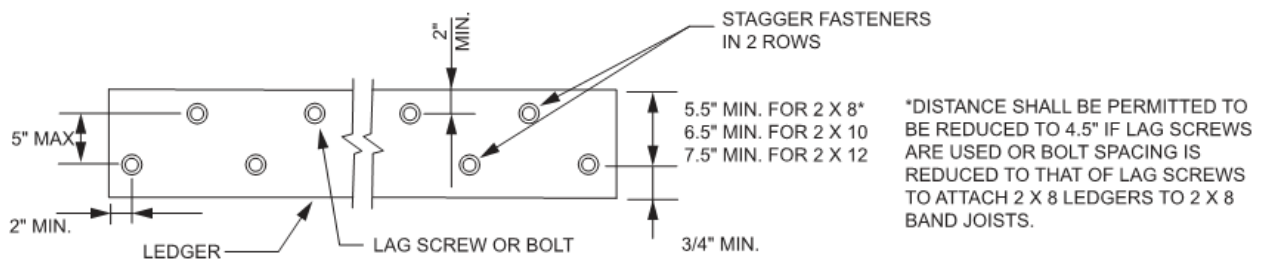

Figure 7: Placement of Lag Screws and Bolts in Ledgers
- Deck ledger connections to band joists shall be in accordance with Tables 4 and 5 as well as Figures 7 and 8.
- Fasteners used in deck ledger connections shall be hot-dipped galvanized or stainless steel and shall be in accordance with Table 4 and Figures 7 and 8.